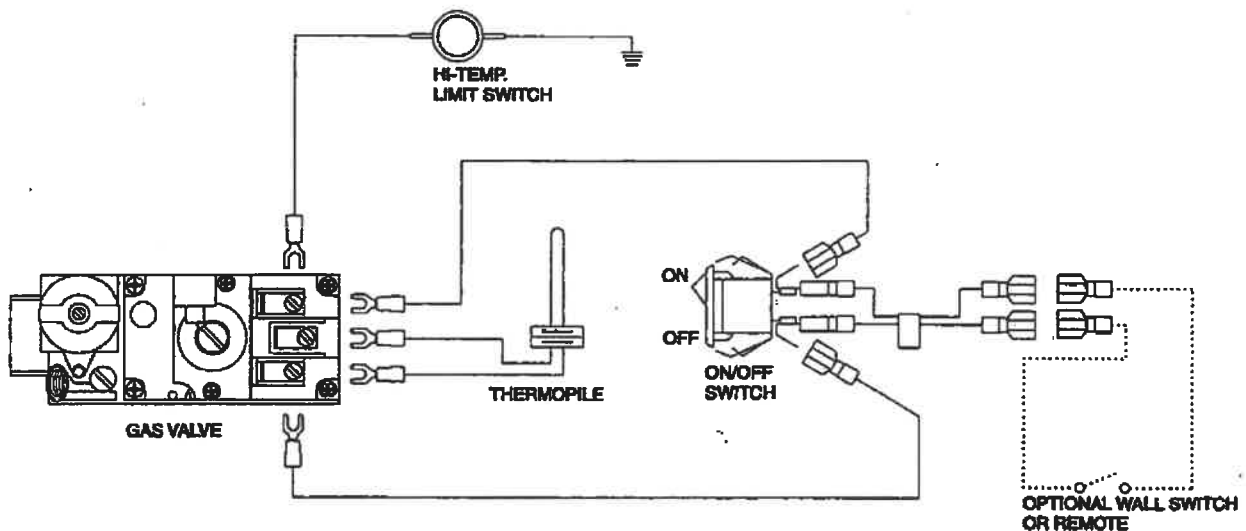

FIGURE 13
- 1. APPLIANCE REQUIREMENTS.** This appliance **DOES NOT** require 110-120 VAC to operate. **DO NOT CONNECT 110-120 VAC TO THE GAS CONTROL VALVE OR THE APPLIANCE WILL MALFUNCTION AND THE VALVE WILL BE DESTROYED.** See Figure 13-STANDING PILOT IGNITION WIRING DIAGRAM.
switch in the desired position on a wall. Run a maximum of 25 ft. (7.8 m) or less length of 18 A.W.G. minimum wire and connect it to the fireplace ON/OFF switch pigtails. **DO NOT CONNECT 110-120 VAC TO THE REMOTE WALL SWITCH OR THE CONTROL VALVE WILL BE DESTROYED.** See Figure 13.